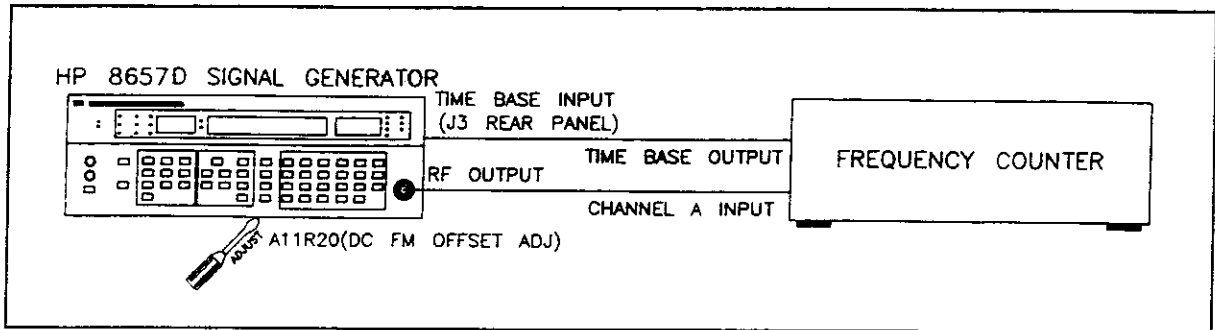

Figure 5-20. DC FM Frequency Offset Adjustment Setup
- Connect the HP 8657D RF OUTPUT to the frequency counter CHANNEL A INPUT and the counter time base OUT to the HP 8657D Time Base INPUT as shown in Figure 5-20.